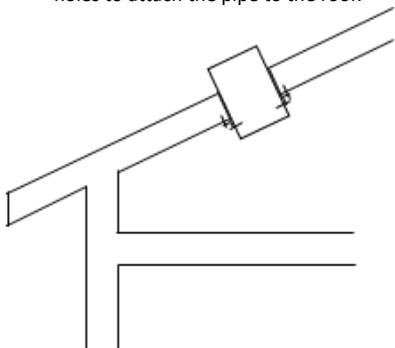

Fig 14
3. Position the 2 brackets (Fig 14) and mark the holes to attach the pipe to the roof.